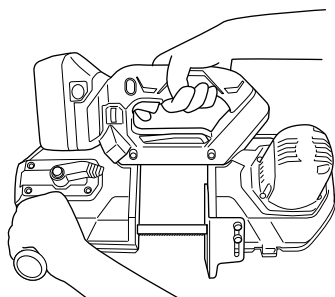

Fig. 1
1. Always hold the tool firmly with both hands on handle and side handle (Fig. 1). Do not touch the metal part.